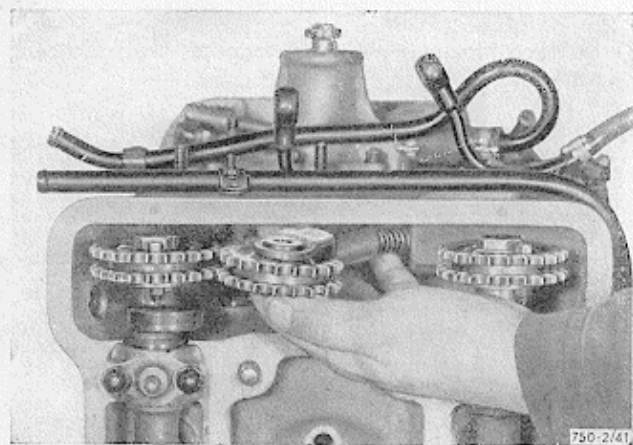

Fig. 41 - Taking of the chain tensioning device from its seating
- 8) Slacken the locking screw on the chain tensioning device (fig. 28) and slide the latter from its seat (fig. 41).